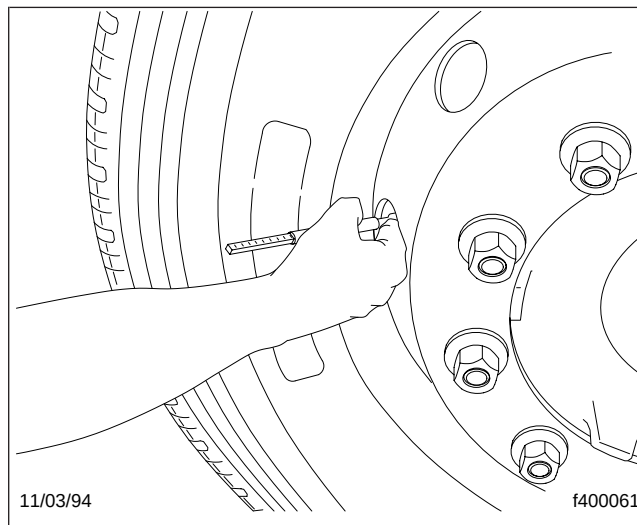

Fig. 9.5, Check Tire Pressure
- 37.1 Check the inflation pressures of the tires before each trip using an accurate tire pressure gauge (**Fig. 9.5**). Tires should be checked when cool. Be sure the valve stem